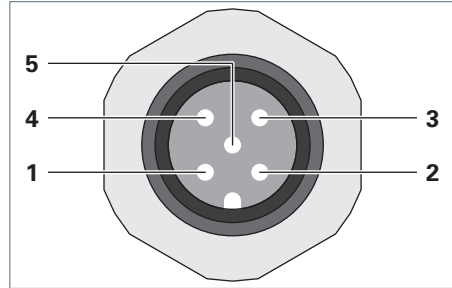

Fig. 5: Pin assignment.
- ▶ Apply 24 V DC to pole no. **2**, see Fig. 5.